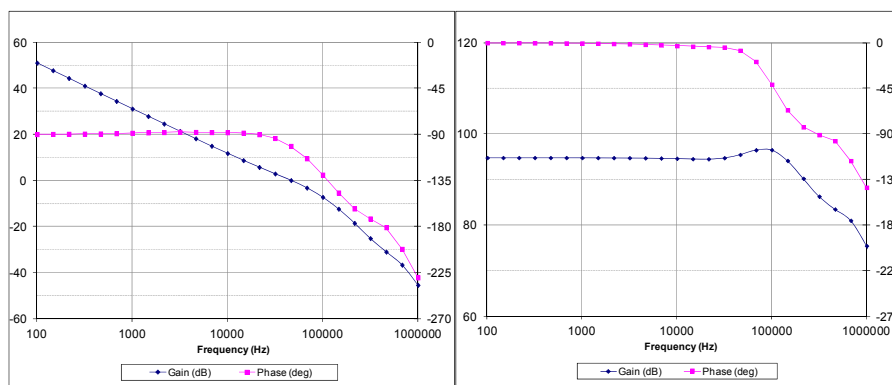

Figure 8. Compensated inner loop transmission (left) and closed loop response (right).
6. ZI also contains R101, which sets the load-line and gain of the outer loop. While the loops remain heavily coupled, this method does allow identification of stable solutions, albeit limited in bandwidth by the current loop. Compensation is set with a zero at 30.2 kHz, a pole at 205 kHz, an integrator gain-bandwidth of 14.9 kHz (or, if K1 is included as part of the compensation rather than the plant, the integrator has a gain-bandwidth of 1.04 MHz). The resulting inner loop response is shown in Figure 8.